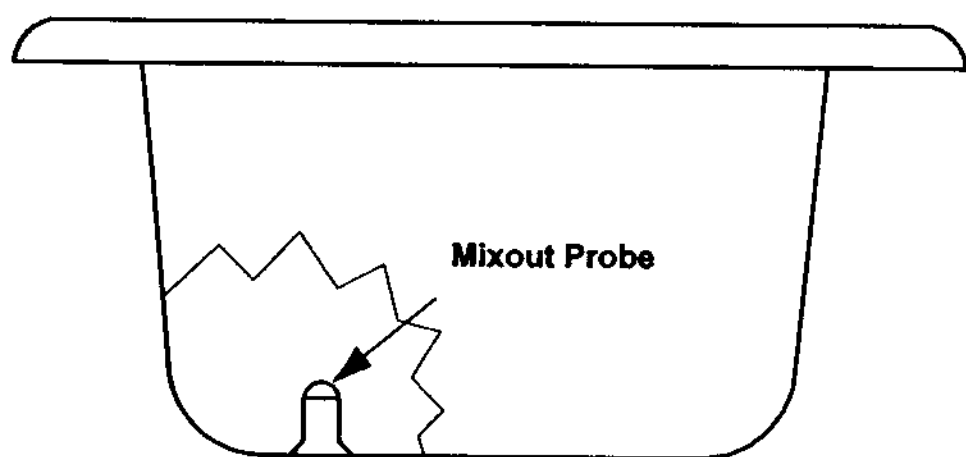

**Fig. 19**
- Slide the lubricated spigot plunger into the front plate (Fig. 19) Align the spigot handle slot to the front.